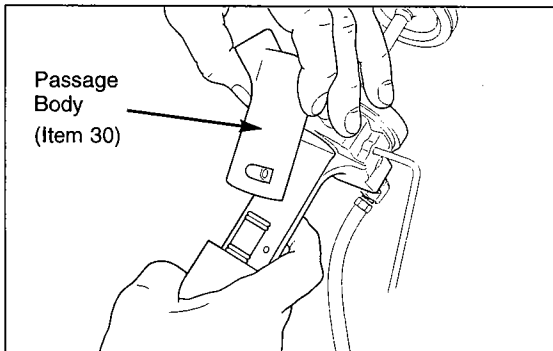

Figure 7
4. Install the Passage Body (Item 30) onto the handle (Item 36). (See Figure 7) When installing the Passage Body, place the end that has the cut-out over the Seal Bushing Assembly trying not to compress the Seal Bushing O-rings (Item 50) at this time.